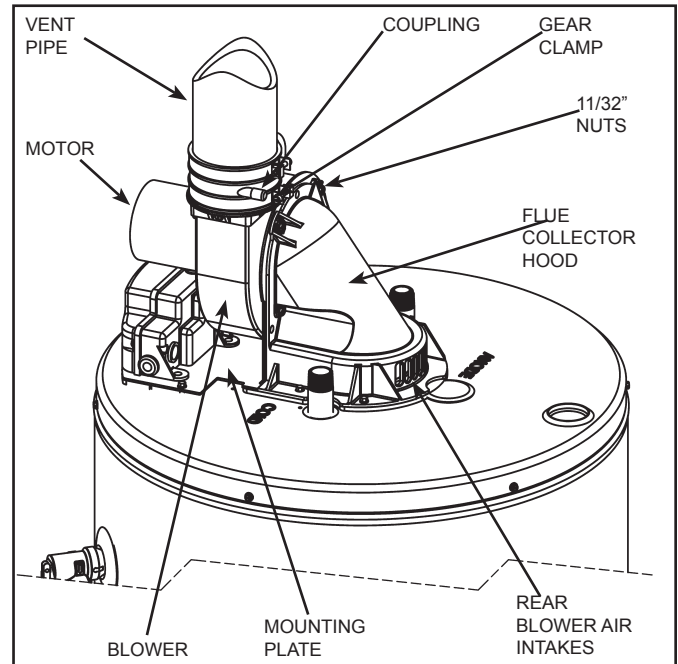

Figure 32. DIP Tube (Inlet Piping)
5. Remove and retain the (4) 11/32" nuts located on the back of the blower with the nut-driver. See **Figure 32**.